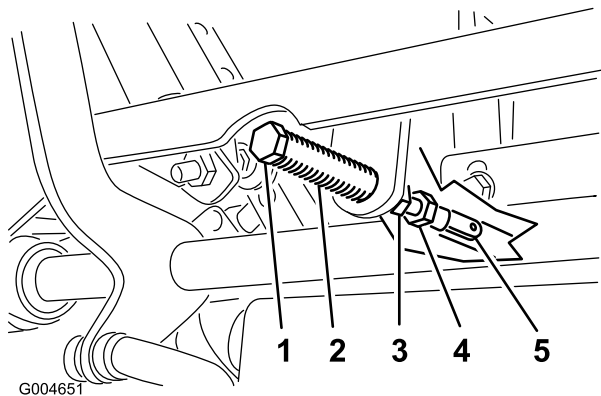

Figure 78
5. Pull the lever back until the clevis pin (on an arm above the pivot shaft) contacts the end of the slot (just beginning to put pressure on the spring) as shown in Figure 78.
7. If adjustment is needed, loosen the nut and jam nut against the yoke (Figure 78).
8. Applying slight rearward pressure on the motion-control lever, turn the head of the adjustment bolt in the appropriate direction until the control lever is centered in the NEUTRAL-LOCK position (Figure 78).
9. Tighten the nut and jam nut (Figure 78).
10. Tighten the jam nuts at the ball joints (Figure 78).